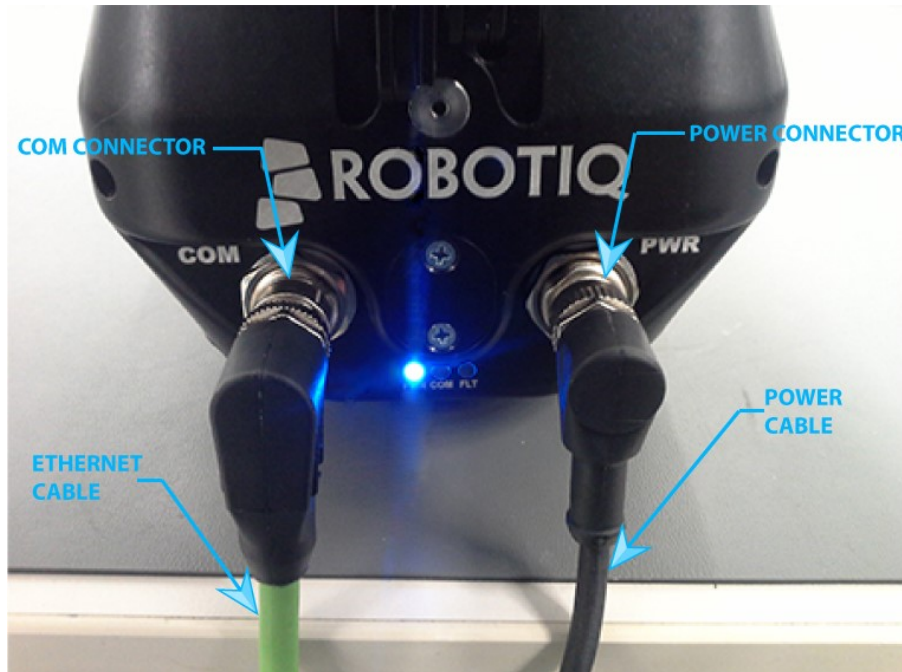
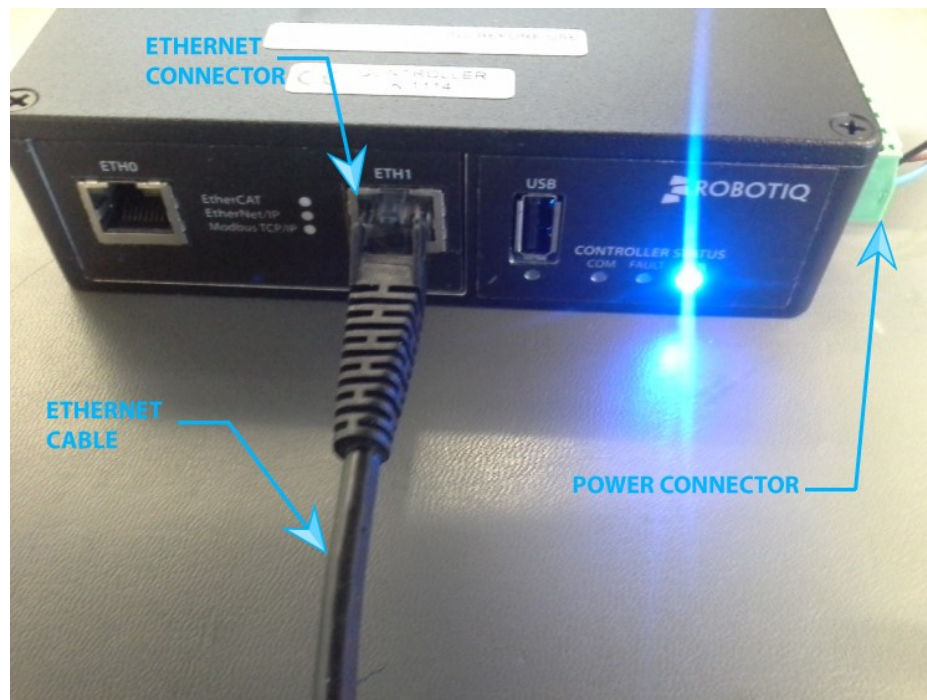

Figure 3.3.1 : Modbus TCP cabling setup for Robotiq 3-Finger Adaptive Robot Gripper
Figure 3.3.2 : Modbus TCP cabling setup for Robotiq 2-Finger Adaptive Robot Gripper Series.
1. Unplug the Gripper from the power source by disconnecting the power cable from the 3-Finger Gripper (Figure 3.3.1) or the power connector from the Controller for the 2-Finger Gripper (Figure 3.3.2).